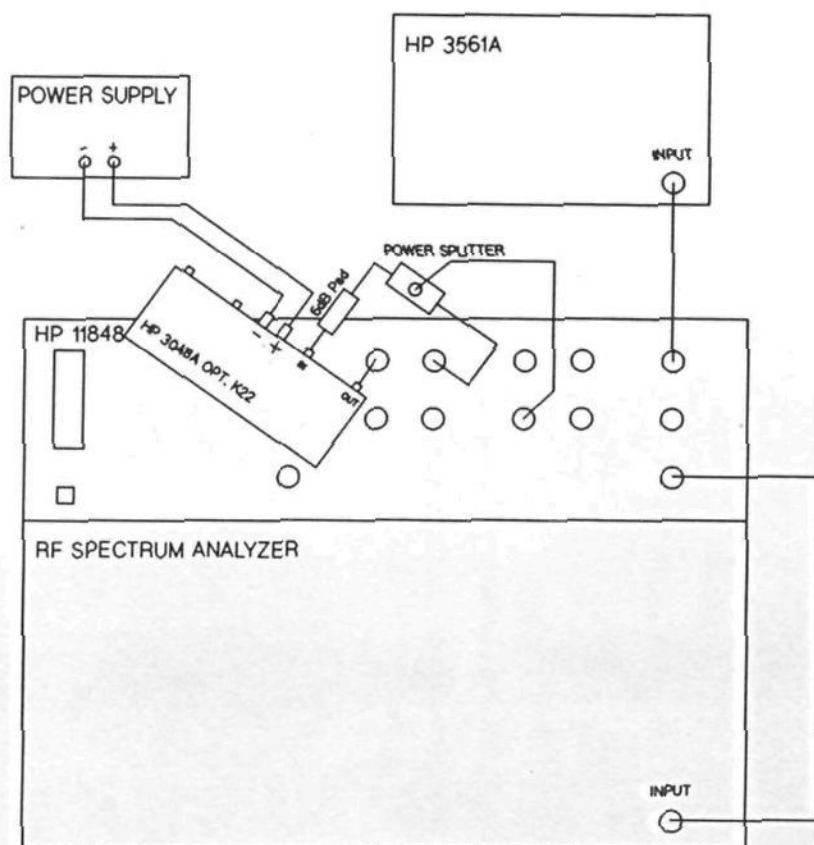

Figure 3-3. Noise Floor Measurement
1. Connect the equipment as shown in figure 3-3.
*Remove the semi-rigid cable and the Type N(m) to SMA(m) adapter from the HP 11848 Noise Floor Test Fixture, HP part number 03048-61032. Assemble the HP 3048A Option K22 noise floor fixture as shown in figure 3-3 with the parts listed in the equipment list above and the Type N(m) to SMA(m) adapter removed from the Noise Floor Test Fixture.*
5. After the controller has completed the initial setup for the measurement, a connect diagram will be displayed. Verify that the equipment is connected as shown in figure 3-3, then press the [Proceed] softkey.